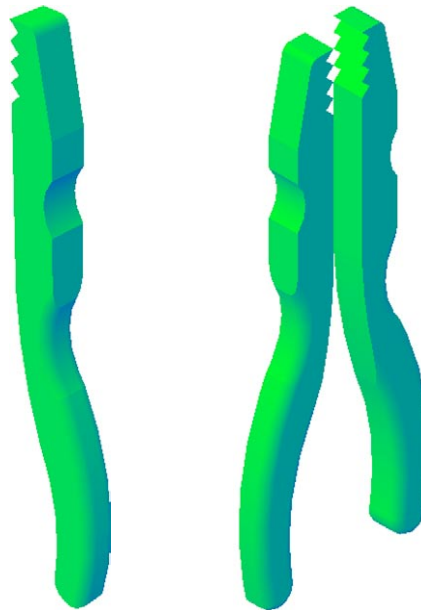

Fig. 14.17 First example – **3D Mirror** – before and after **Mirror**
### First example – 3D Mirror (Fig. 14.17)
3. Extrude the region to a height of **5** and render. A **Conceptual** style shading is shown in Fig. 14.17 (left-hand drawing).
The result is shown in the right-hand illustration of Fig. 14.17.